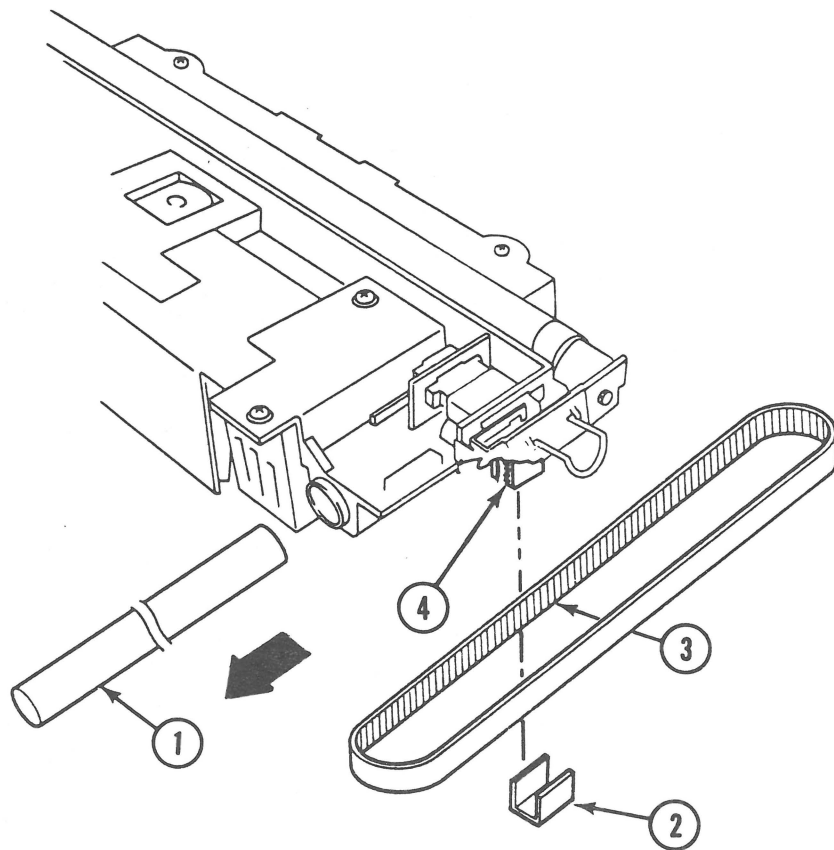

FIGURE 12
- a) Remove the clip (Figure 12, #2) that covers where the belt (Figure 12, #3) is attached to the optical block. Use a flat-blade screwdriver, if necessary, to pry the clip loose.
- b) Pull the belt straight out. The plastic slot (Figure 12, #4) is molded with ridges that match the grooves on the belt (Figure 12, #3).
1. Attach the belt to the optical block. The grooves in the belt (Figure 12, #3) fit into the molded grooves on the block (Figure 12, #4). The belt is then secured with the clip (Figure 12, #2).